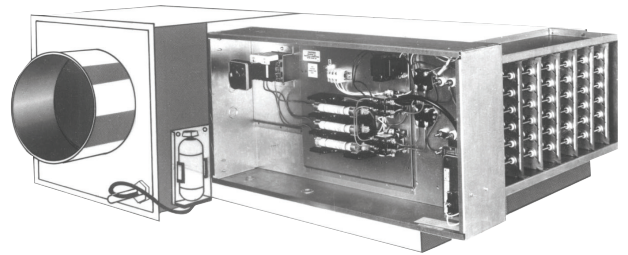

Figure 55.
**Variable Air Volume (VAV) Units** – To serve the fast moving and very competitive VAV market, Indeeco has developed a fully computerized design and construction system, which enables us to ship substantial volumes of heaters in a wide variety of sizes, ratings, and control options quickly. This system was patterned after our methods of designing and producing standard duct heaters, modified to solve the problems unique to the VAV industry. Slip-and-drive sheet metal connections, control packages tailored to VAV systems, and special techniques for fan interlocks are some of the features designed for this market (Figure 55).